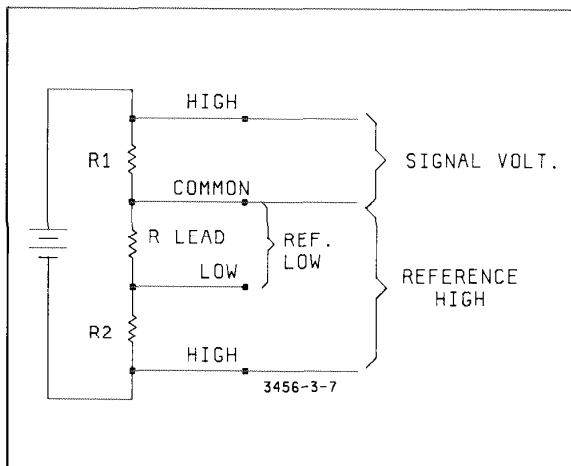

Figure 3-7. Typical Ratio Measurement.
c. Typical Ratio Measurement. Matching resistor values for an accurate voltage divider is one way to use the 3456A's Ratio feature. Try this by using the set up in Figure 3-7. Connect the instrument as indicated in the figure. Make sure that REFERENCE LOW is connected at the top of R2 and that Signal (Volts) Common is connected at the bottom of R1. Once the instrument is connected and placed in the DCV/DCV Ratio mode, a Ratio Measurement is made. The voltage drop across R1 and R2 is measured including any offset voltages between Signal Common and Reference Low. The offset voltage is used to compensate for any error causing voltages between the input and resistors. Once all the measurements are taken, the Ratio Measurement is displayed on the front panel. If the resistors are equal in value, the reading should be approximately " -1.00000 ".